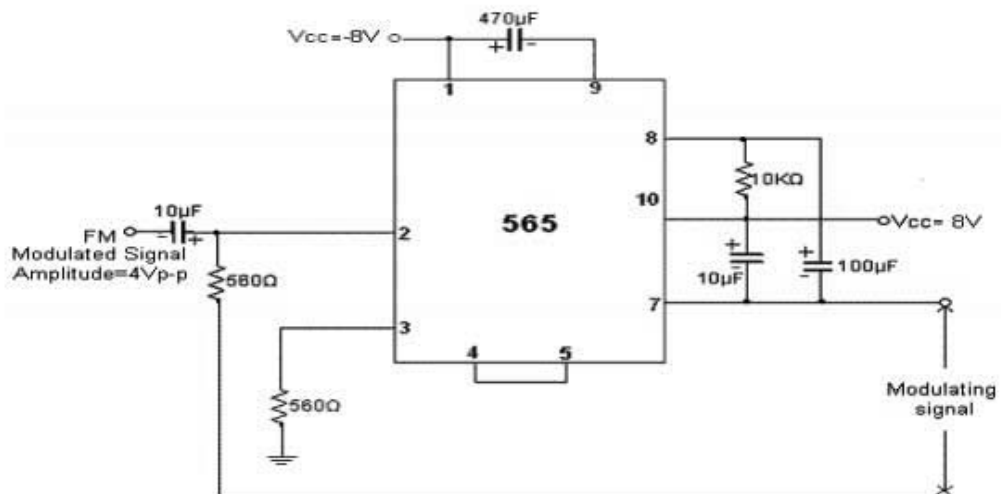
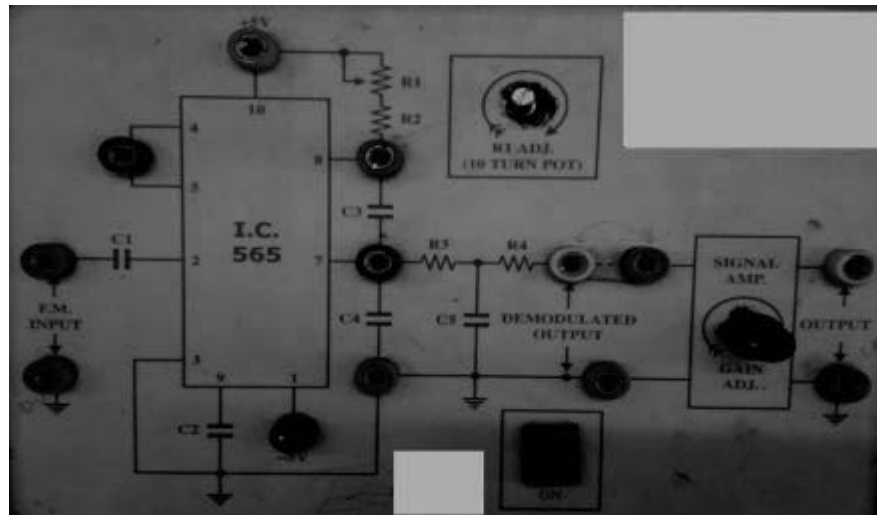
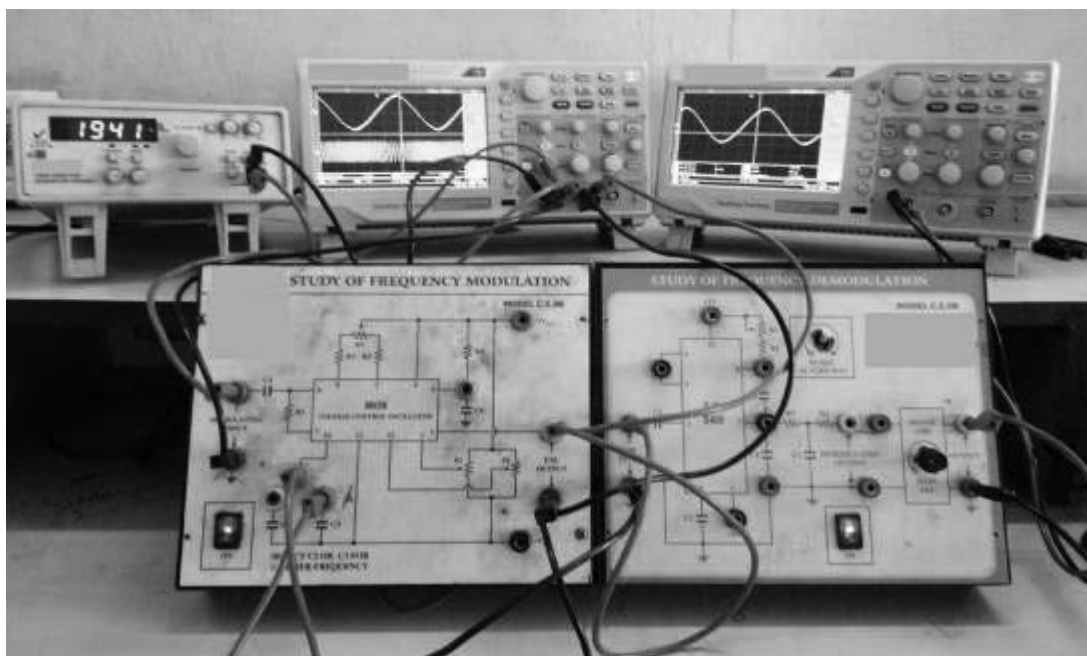

Fig 11.3: FM Demodulation circuit diagram using IC 565
Fig 11.4: FM Demodulation trainer kit using IC 565
Fig 11.5: FM Demodulation experimental set up using IC 565
a) Sample Circuit diagram(Fig11.3, Fig11.4)/Experimental set up(Fig 11.5)
1. Make the connections as shown in figure 11.5.